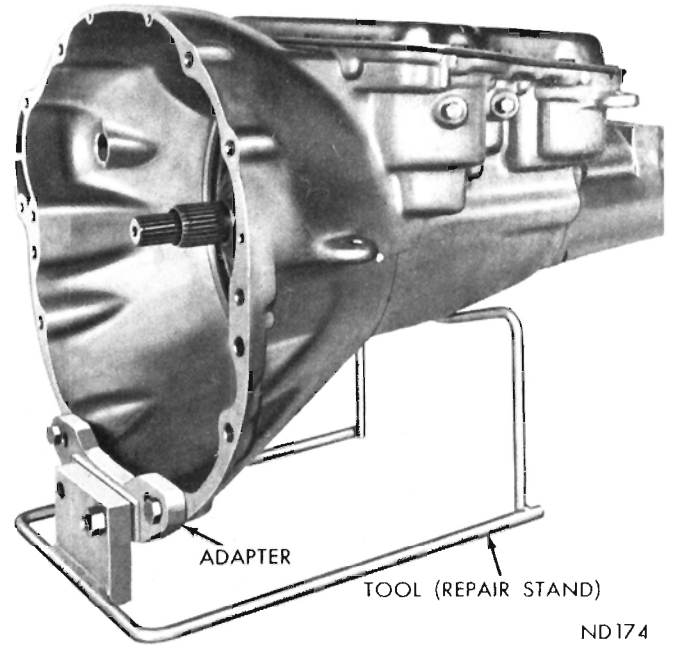

Fig. 44—Transmission Installed in Repair Stand
(1) Place transmission assembly in repair stand, Tool C-3750, for 6 Cyl. engines. For 8 Cyl. engines use adapter C-3882, with repair stand to support these transmissions (Fig. 44).